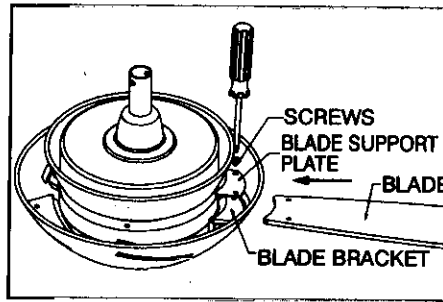

FIG. 5
Step 1. (Fig. 5) Insert the blade into the motor housing blade slot, the side marked "This side up" must face the ceiling.
Step 2. (Fig. 5) Place a blade support plate over the blade; align the 2 holes from the blade support plate, blade and blade bracket, secure with two screws provided.